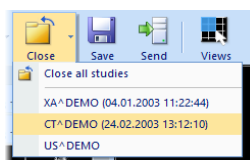

Figure 116 – Closing a selected study
- Expand the **Close** button in the main toolbar, and select the item containing the name of the study in the drop-down menu (see Figure 116).